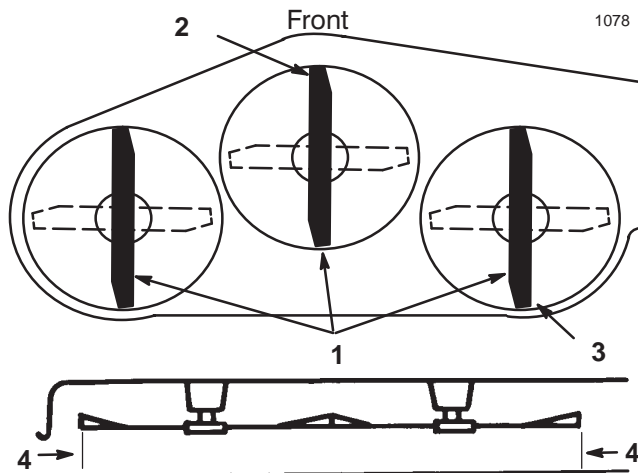

Figure 42
- Set the height-of-cut at 3 inch (76 mm) and carefully rotate the blades so they are facing front to rear (Fig. 42).
- Measure between the tip of the front blade (Fig. 42) and the tip of the rear blade to the flat surface. If the front blade tip is not 1/16–5/16 inch (1.6–7.9 mm) lower than the rear blade tip, adjust the front trunion rods.
- After adjusting both trunion rod yokes evenly, secure the yokes with the hairpin coppers. Check the front-to-rear level again. Continue adjusting the yokes until the front blade tip is 1/16–5/16 inch (1.6–7.9 mm) lower than the rear blade tip (Fig. 42).